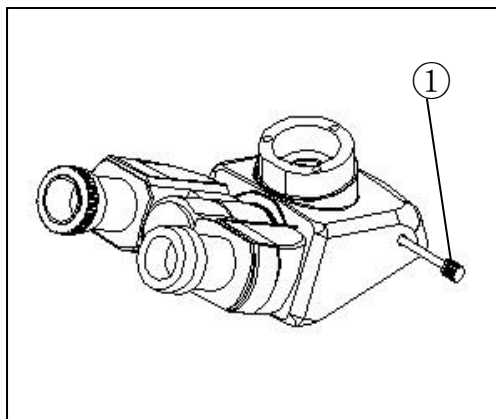

Fig.29
3.2.9 Switching the Light Path (Fig.29)
- ◎ Slide the light path selector lever ① by your thumb to select the light path you need.